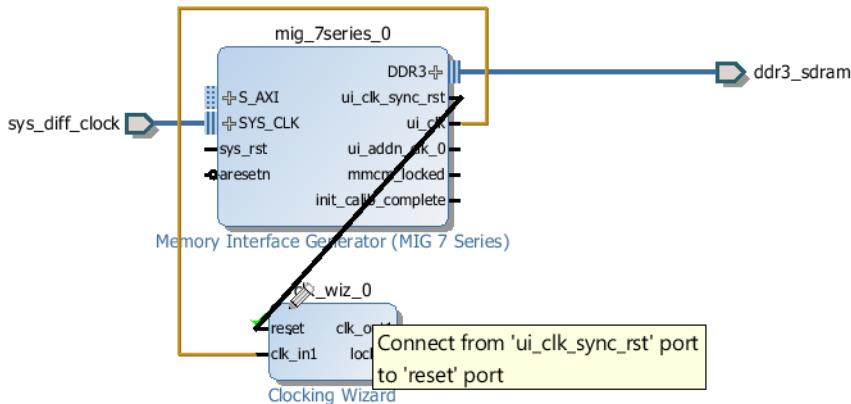

Figure 5-11: Connect ui_clk_sync_rst to the Reset Port
5. For the UltraScale Memory IP, connect the c0_ddr4_ui_clk_sync_rst pin to the Clocking wizard, shown in Figure 5-11.